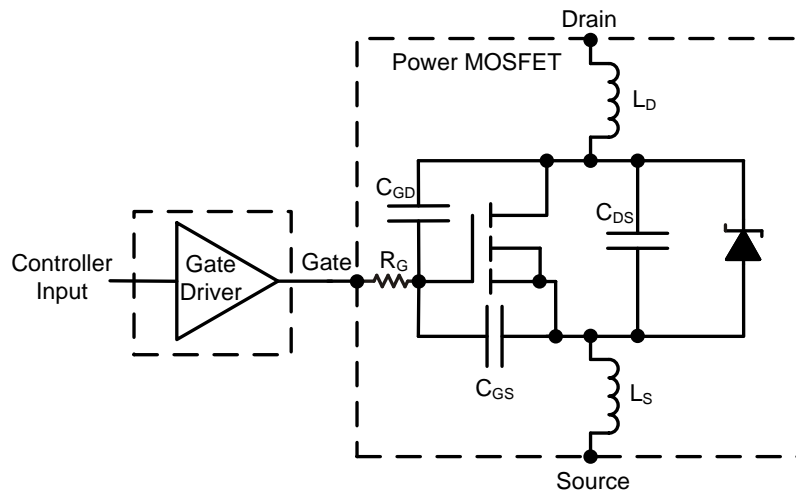

Figure 1. Simplified Model of a Non Inverting Gate Driver IC and a Power MOSFET
Figure 1 shows the simplified model, including the parasitic components that influence high-speed switching, gate-to-source capacitance (CGS), the gate-to-drain capacitance (CGD), and drain-to-source capacitance (CDS). Values of the source inductance (LS) and drain inductance (LD) depend on the MOSFET's package. The other parasitic component is RG, the resistance associated with the gate signal distribution within the MOSFET that affects switching times. An important attribute for the gate driver is its ability to provide sufficient drive current to quickly pass through the Miller Plateau Region of the power-MOSFET's switching transition. This interval occurs when the transistor is being driven on or off, and the voltage across its gate-to-drain parasitic capacitor (CGD) is being charged or discharged by the gate driver. Figure 3 plots total gate charge as a function of the gate-drive voltage of a power MOSFET. Total gate charge (QG) is how much must be supplied to the MOSFET gate, to achieve full turn-on. It is usually specified in nanocoulombs (nC).